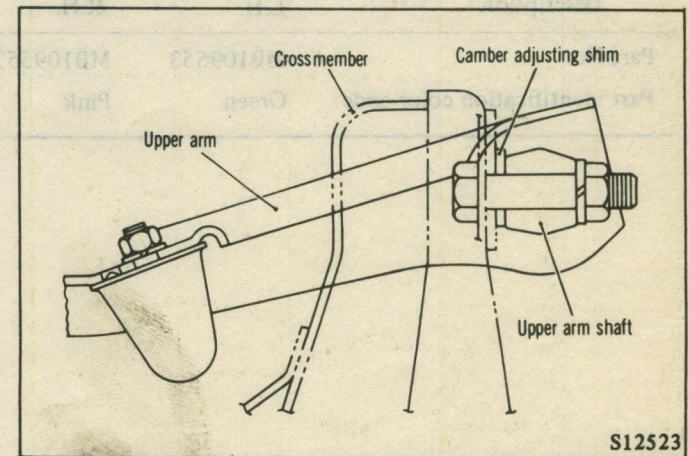

Fig. 29 Installing the Upper Arm
(1) Reinstall camber adjusting shims between upper arm shaft and crossmember. Install bolt connecting upper arm shaft to crossmember in the direction shown. (Fig. 29) Tighten them to the specified torque.